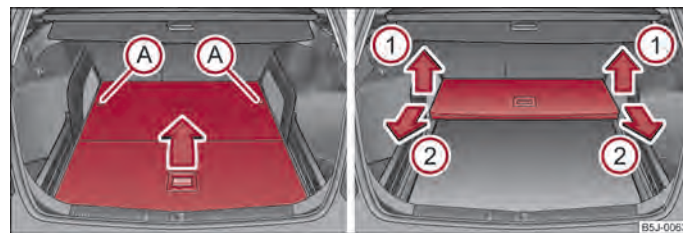

Fig. 50 Luggage compartment: Fold up variable loading floor/remove
- Unlock the variable loading floor by turning the locking bolts (A) by approx. 180° to the left ⇒ fig. 50.
- Lift up the variable loading floor in direction of arrow ① ⇒ fig. 50 and remove it by pulling in direction of arrow ② ⇒ fig. 50.